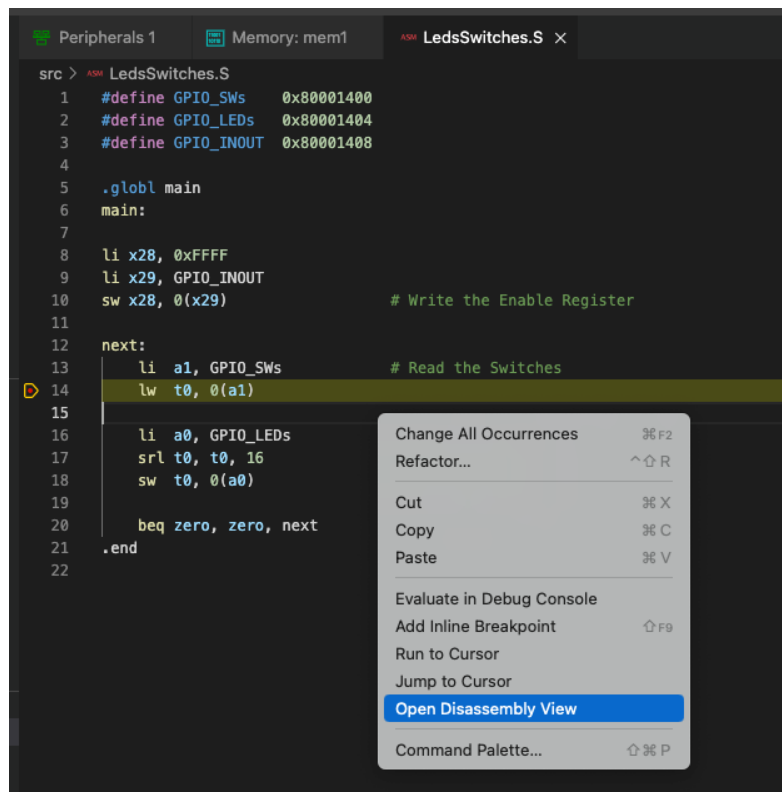

Figure 48: Opening Disassembly View
- a. Go back to the window that shows the code for your program, right-click, and select “Open Disassembly View” (Figure 48).